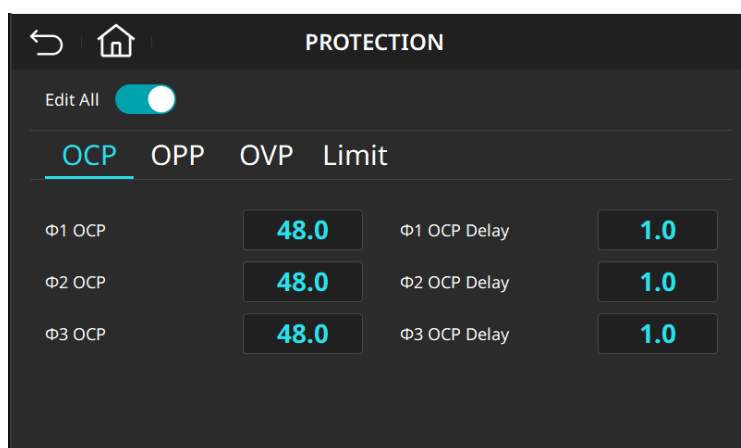

Figure 4-54 Output Overcurrent Protection Page (OCP $\Phi 1/\Phi 2/\Phi 3$ = 48.0 A, OCP Delay $\Phi 1/\Phi 2/\Phi 3$ = 1.0 s)
6. Enter **1**, then press **Enter** to change the value to “1.0”, as shown in Figure 4-54.